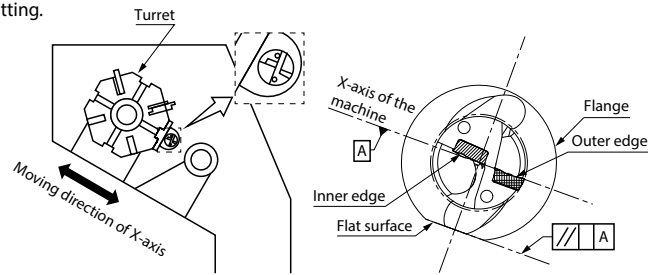
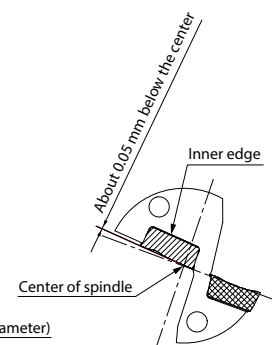

Fig. 1 Installed into the lathe
Fig. 5 Front view of the drill
- Align the scale at the flange periphery of the sleeve to the center of the coolant plug of the drill. (Fig. 1)
2. It is recommended to set the outer insert as shown in Fig. 1 with the outer insert facing the operator. (Fig. 1)
When installing inner insert as shown in Fig. 1, It will be set around 0.05 mm below the center of spindle. (Fig. 5)